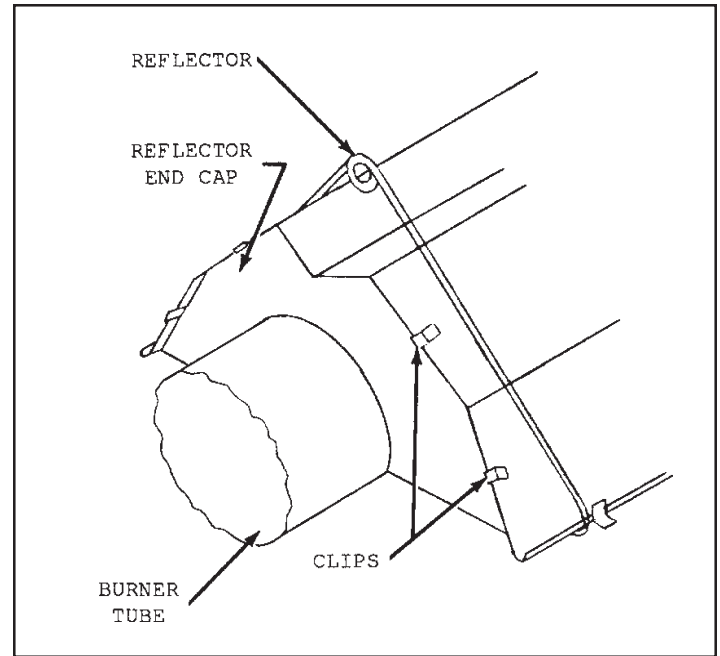

Figure 2.15
4. Install elbow and tee reflector end-caps at the exposed end of each reflector using four clips per end cap (see Figure 2.15).